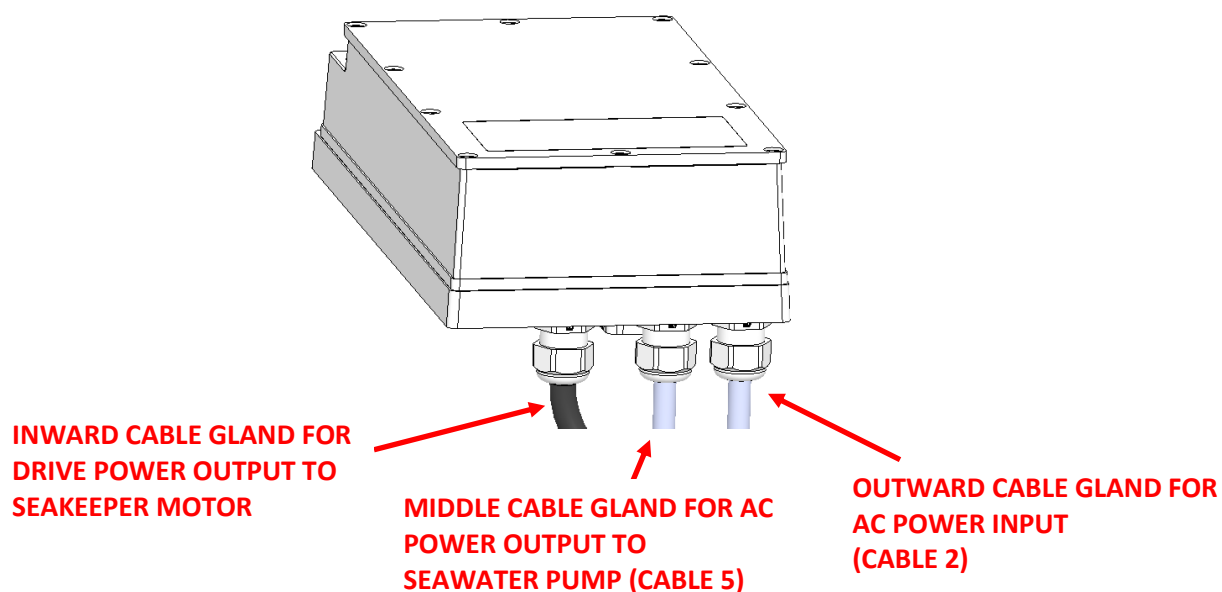

FIGURE 2 – DRIVE BOX AC POWER INPUT & OUTPUT CABLE GLANDS
- a. Locate CABLE 5 for AC power output to the Seawater Pump from the Drive Box at the middle of three cable glands. Cable is 10 ft (3m) long and Seakeeper supplied pre-installed. (See Figure 2.)
- Locate CABLE 5 for AC power output to the Seawater Pump from the Drive Box at the middle of three cable glands as shown in Figure 2.